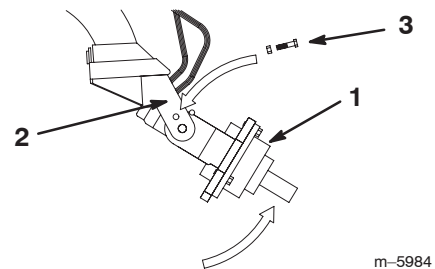

Figure 2
1. If you are installing an auger on model 22803 drive head, position the drive head vertically, slide a bolt (1/2 x 2-3/4 inch) into the holes in the front cradle arms, and secure it lightly with a flange nut (1/2 inch) (Fig. 2).
4. Manually rotate the auger drive head up, until you can slide a bolt (1/2 x 2-3/4 inch) into the hole in the cradle arm, securing the drive head. Lightly secure the bolt with a flange nut (1/2 inch) (Fig. 2).